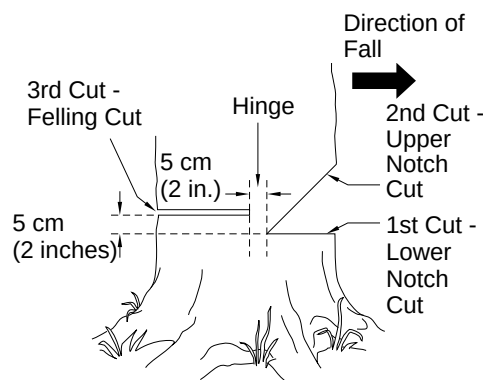

Figure 12 - Felling A Tree
A properly placed felling notch will determine direction tree will fall. Place felling notch on side of tree in direction you want tree to fall (see Figure 12). Follow directions below to create a felling notch.
1. Make lower notch cut as close to ground as possible. Hold saw so guide bar is horizontal. Cut 1/3 the diameter of tree trunk (see Figure 12). **Note:** Always make this horizontal lower notch cut first. If you make this cut second, tree can pinch chain or guide bar.
2. Start upper notch cut the same distance above first cut as first cut is deep. **Example:** If lower notch cut is 20 centimeters deep (eight inches), start upper notch cut 20 centimeters (eight inches) above it. Cut downward at 45° angle. The upper notch cut should meet end of lower notch cut (see Figure 12).
1. Make felling cut five centimeters (two inches) higher than lower notch cut and on opposite side of tree (see Figure 12). Keep felling cut parallel to lower notch cut.
⚠ **WARNING:** Do not cut all the way through tree. Leave about five centimeters (two inches) of tree diameter uncut directly behind felling notch (see Figure 12). This uncut portion acts as a hinge. The hinge helps keep tree from twisting and falling in wrong direction.